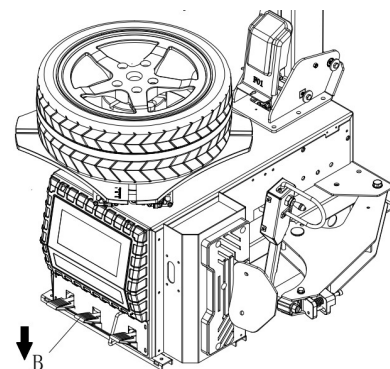

Fig.15
- Press the pedal B(Fig. 15) to adjust the wedges to the reasonable place. Place the wheel and locked it .